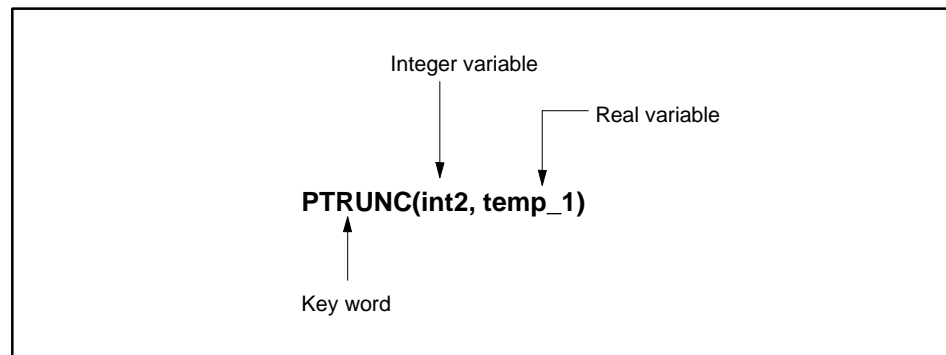

Figure 11-42 PTRUNC Procedure
- The returned value is the truncated result of the real variable. For example, in Figure 11-42, the value of the variable, **int2**, is 2 when the variable **temp_1** is 2.718.